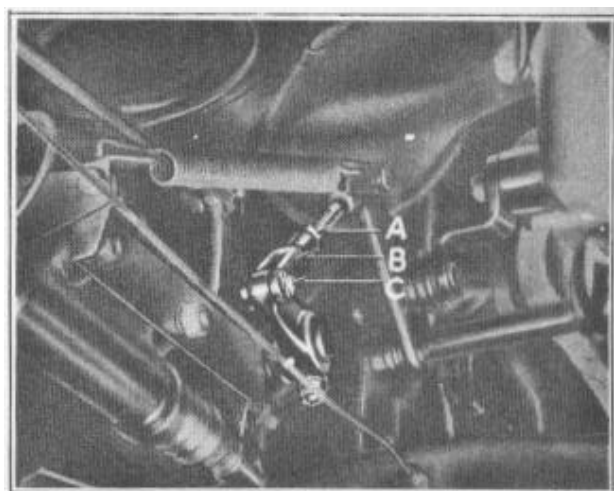

FIGURE 3
This can be adjusted by loosening lock nut (A), Figure 3, removing cotter pin and clevis pin (C) and turning yoke (B) to increase or decrease the clearance as required. Replace clevis pin and cotter pin and tighten lock nut securely.